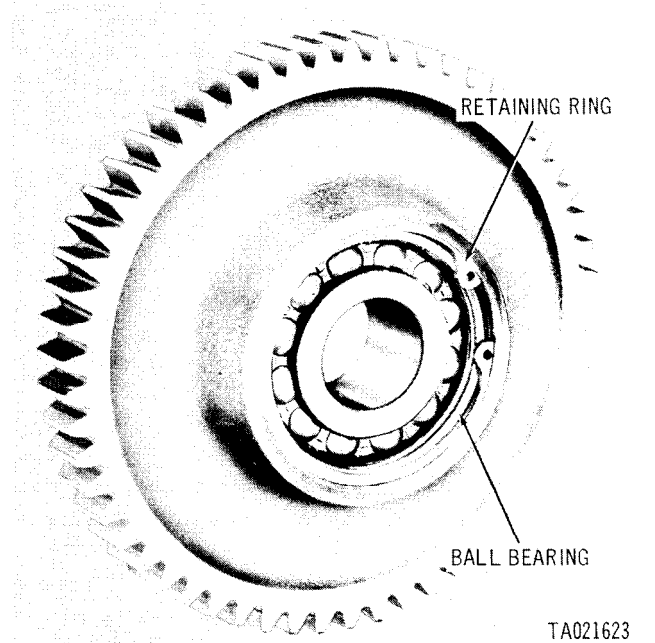

Figure 3-166. Removing generator idler gear retaining ring and ball bearing.
a. *Disassembly.* Remove retaining ring (fig. 3-166), securing ball bearing in generator idler gear and press ball bearing from gear. Disassemble the starter idler gear in a similar manner.
(1) Inspect starter idler gear and bearing against limits specified in repair standards (table 3-7). Replace parts not meeting these requirements.
(2) Inspect generator idler gear and bearing against limits specified in repair standards (table
Secure bearing in gear with retaining ring (fig. 3-166). Install the starter idler gear bearing in a similar manner.